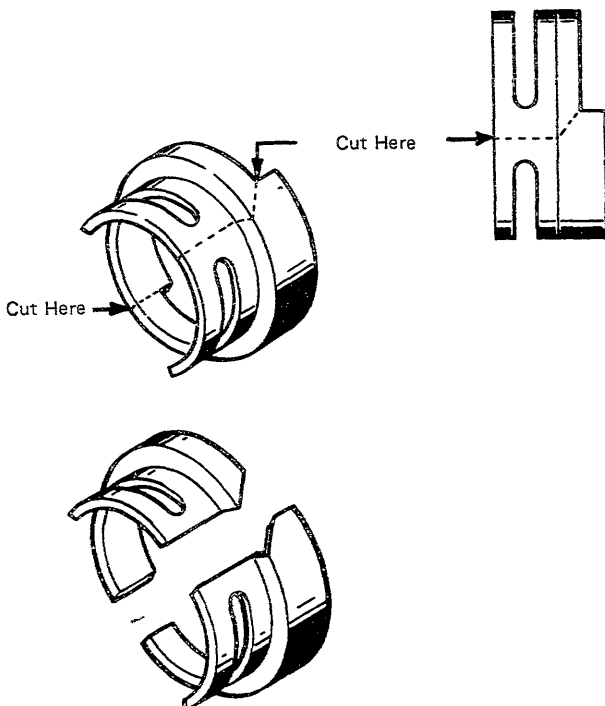

Figure 1-19. Restore-Cam Quick Replacement
- Using a fine hacksaw or coping saw blade, cut a new cycle clutch restore cam as shown in Figure 1-19.